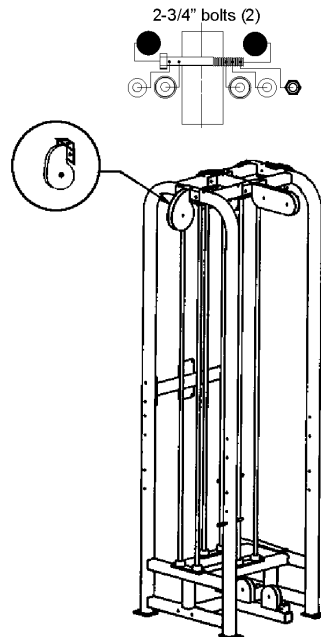
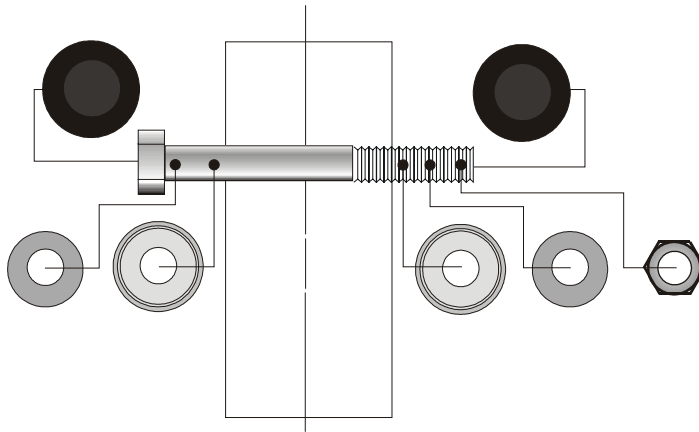

Figure 4. Bolt on the teardrop pulleys.
Figure 5. Configuration for 2-3/4" and 3" bolts.
2. Bolt on the teardrop pulley assemblies above the benches (see Figure 4) on both cubes using two 3/8" x 2-3/4" hex head bolts. Include the 3/8" flat washer, end cap washers, end caps and 3/8" Nyloc (locknut). Use the bolt configuration shown in Figure 5. You may wish to use a pinch bar to align the bolt holes.
Hardware Figure 4 shows the types of cables that are included with the SM63.
Hardware Figure 4. Cables.
Hardware Figure 5. Top assemblies.